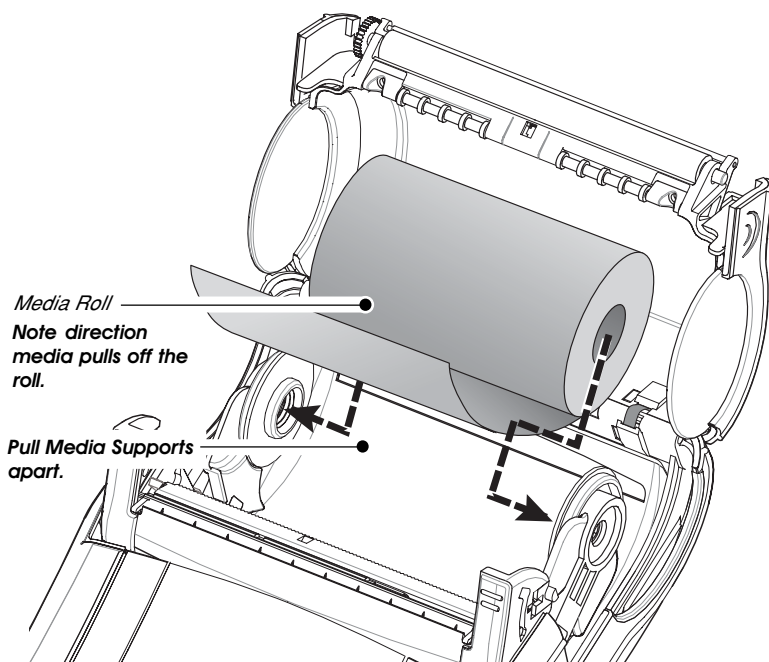

FIGURE 6: INSTALLING MEDIA IN THE QL 420
Loading media from an internal supply. Refer to Figure 6.
- Pull the media supports apart, insert the roll of media between them, and let the media supports close. Ensure that the media pulls off the core in the direction shown in Figure 6. The supports will adjust themselves to the width of the media, and the media should be able to spin freely on the supports.